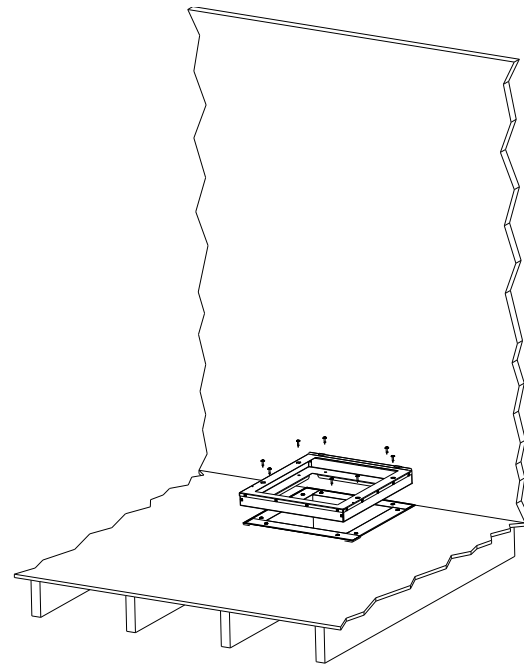

Fig. 3 – Floor Base
3. Apply a bead of UL 181 rated caulk or approved duct mastic around the perimeter of the plenum, and then install the floor base supplied with the unit over the plenum. Attach with four 1" length (min) wood screws through the plenum and into the floor (Fig. 3).